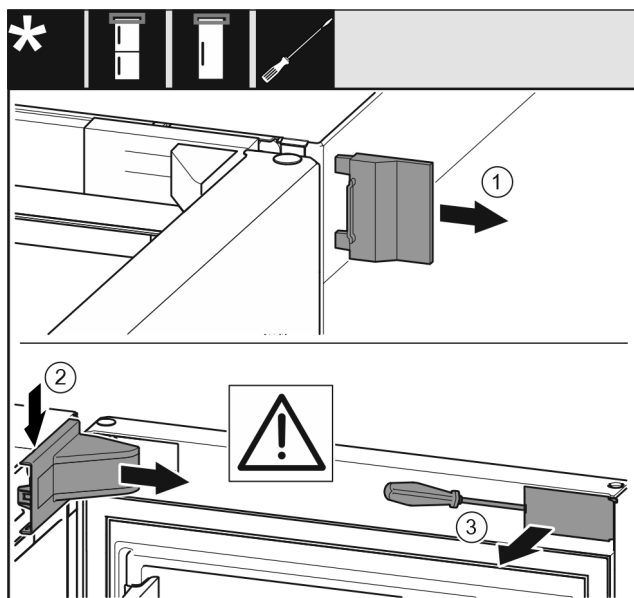

Fig. 7
- Remove the outer cover Fig. 7 (1).
- Disengage and remove the swap bearing block cover Fig. 7 (2).
- Use a slotted screwdriver to unlatch the trim Fig. 7 (3) and swing it to the side.